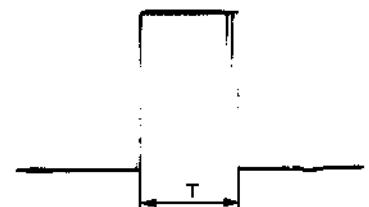

Fig. 5-10 FM noise pulse
3. Adjust R141 for  $T = 10^{+5}_{-3}$  msec in the Fig. 5-10.